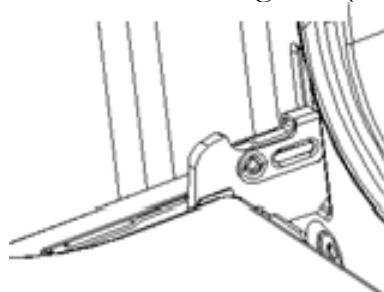

Fig. 2
5. Close the door as far as it will go, grasp the right and left sides of the door and pull the door upwards. (see figure 2)